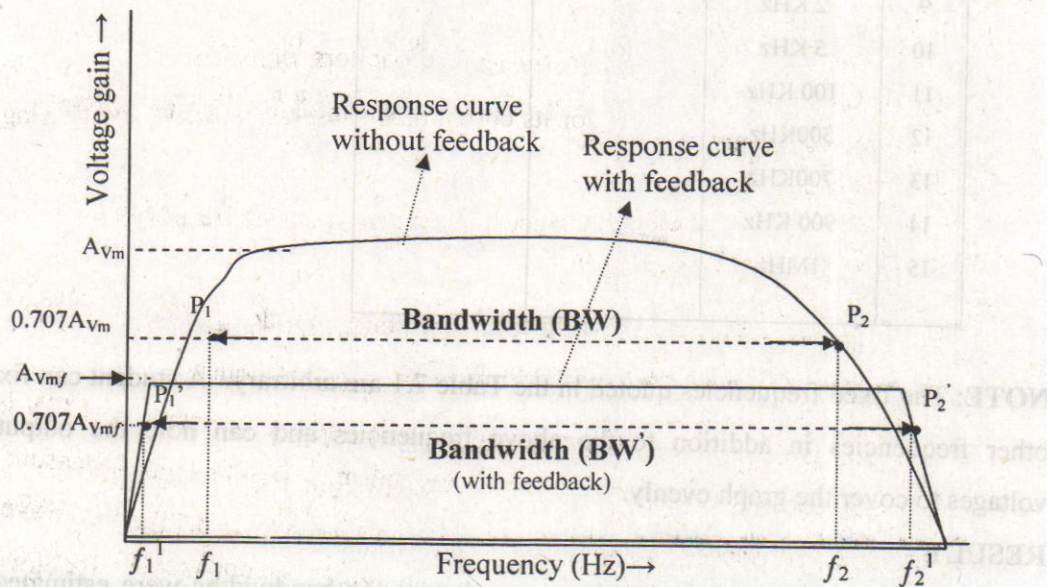

Fig.7.2
4. Compare the above bandwidths obtained for the two curves as shown in Fig.7.2.